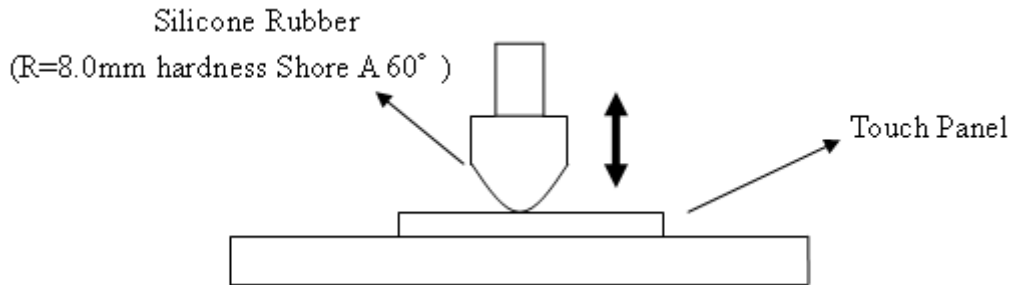

Fig. 6-1
6.2 If the unpowered touch panel is hit 36 million times with a silicone rubber finger of R8 with an activation force / touch force of 2.5N at a hitting rate of 2 times per second (see Fig.6-1).